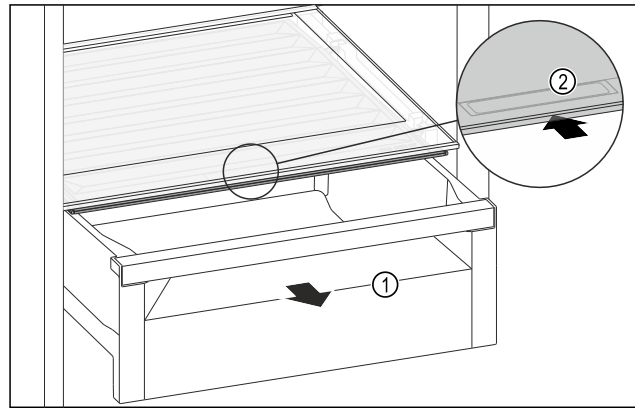

Fig. 152
- ▶ Pull out the drawer Fig. 152 (1).
- ▶ Grasp the recessed grip Fig. 152 (2) on the compartment lid and push the compartment lid backwards at the same time.